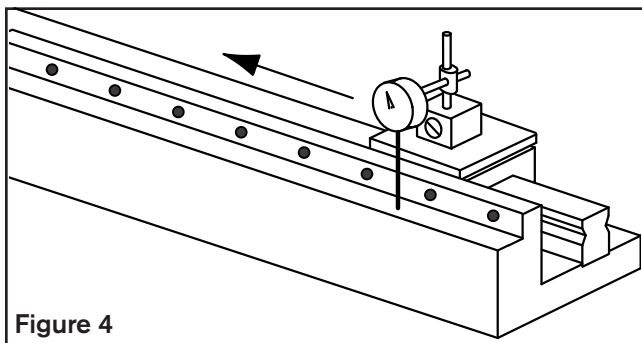

Figure 4
- If joining multiple rack segments a special alignment tool is required and is available from Nexen. The alignment tool ensures proper pinion meshing and system accuracy when the pinion crosses rack joints. When the adjacent racks are properly positioned, there will be a 0.1 - 0.2 mm gap between their ends. See Figures 4 and 8 for details.
2. With the guiding system in place mount a dial indicator on the carriage and measure the perpendicularity and parallelism variance on the two rack mounting surfaces by moving the carriage down the run and monitoring the dial indicator readings. Verify they meet or exceed specifications of ± 0.03 mm [± 0.001 in.] as shown in Figure 4. If variance is not within specifications, verify guiding system installation and correct if possible. Mark the location of the high point in the mounting surface the rack bottom sits on.